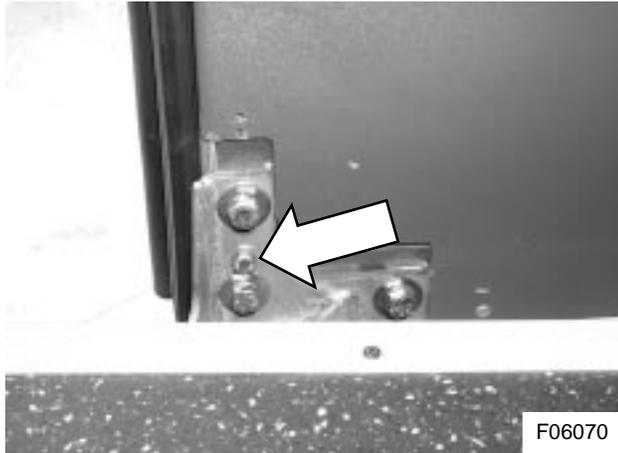

Figure 1: Lower hinge and locator bolt
- 5) Undo and remove the lower hinge locator bolt (see Figure 1). Undo and remove the bolts securing the lower hinge. Remove, mark and recover the lower hinge to door spacer.